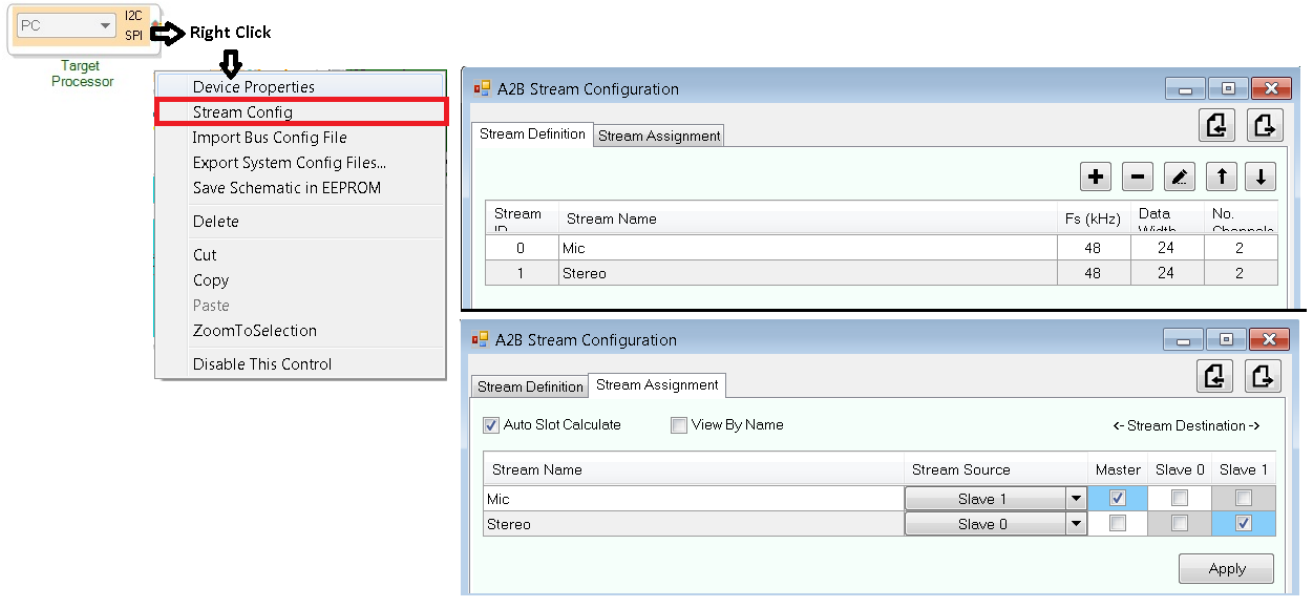

Figure 6: Stream Configuration
8. Use the *Stream Config* tab (right-click on Target Processor → Device Properties → Stream Config) to define audio streams across the nodes (Figure 6). The stream assignments configure the upstream and downstream slot settings across the nodes.